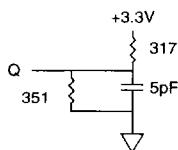

Fig. 2 OUTPUT LOAD EQUIVALENT
6. Output loading is specified with  $C_L = 5pF$  as in Fig. 2. Transition is measured  $\pm 500mV$  from steady state voltage.
11. The load used for  $V_{OH}$ ,  $V_{OL}$  testing is shown in Fig. 2. AC load current is higher than the shown DC values.